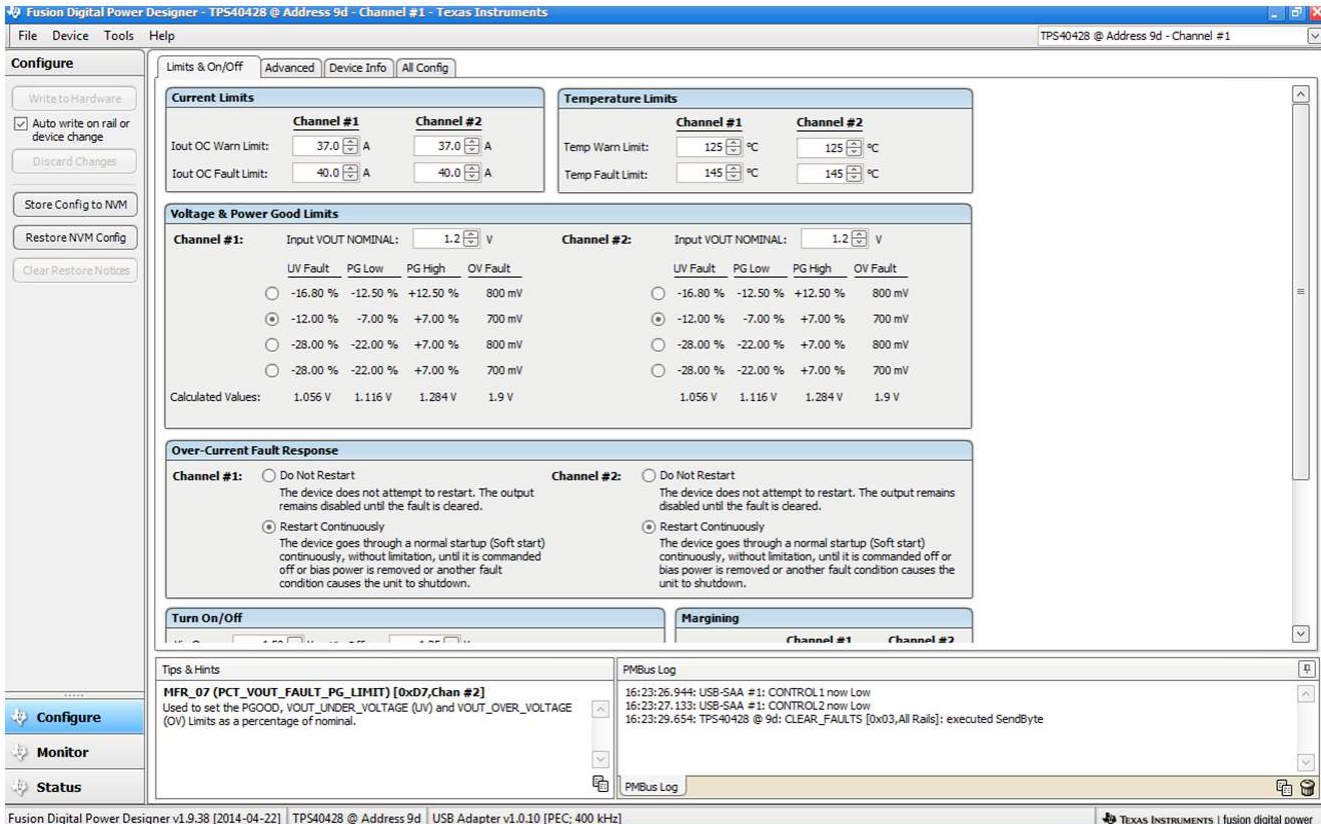

Figure 32. Configure- Limits and On/Off
- Use the screen displayed in Figure 32 to configure the following: